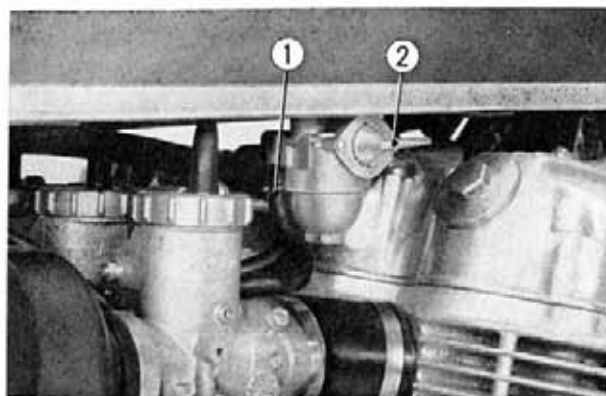

Fig. 6-21 ① Fuel tube ② Fuel valve
1. Switch the fuel valve to "STOP" and disconnect the fuel tube from the fuel valve. (Fig. 6-21)